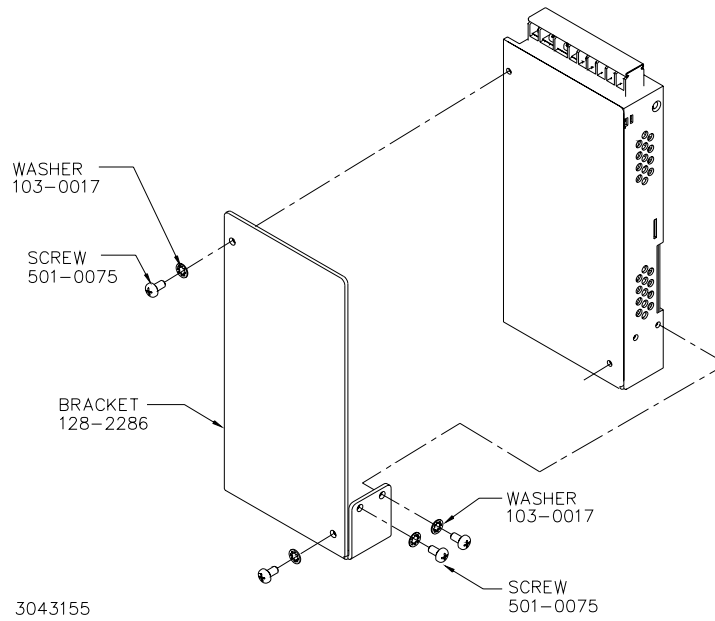

FIGURE 2. INSTALLING MOUNTING BRACKET ON POWER SUPPLY
1. **INSTALL MOUNTING BRACKET.** Attach the mounting bracket to the power supply using the hardware supplied (see Figure 2).